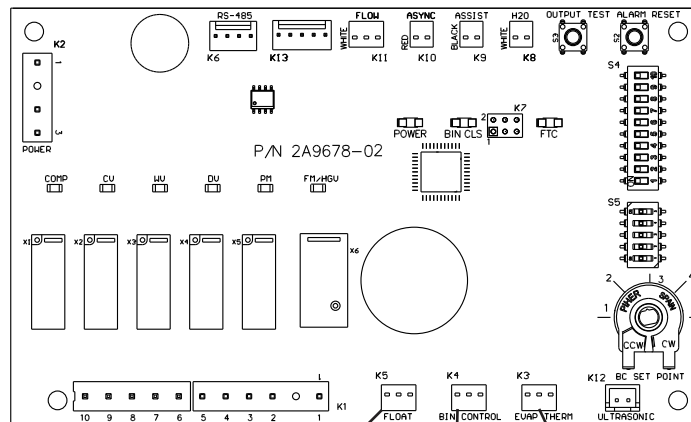

Fig. 2 K5 Float Switch K4 Open K3 Thermistor
- 4) To verify voltage output from CB to the components, slide the CB K1 connector out far enough to allow multimeter lead contact. With the icemaker in the cycle to be tested, check output voltage from the corresponding pin on CB K1 connector to a neutral (W) wire. If output voltage is not found and the appropriate LED is on, replace CB.
- 5) Check CB control connectors K3, K4, K5, and K12 for correct VDC per table below. See Fig. 2.